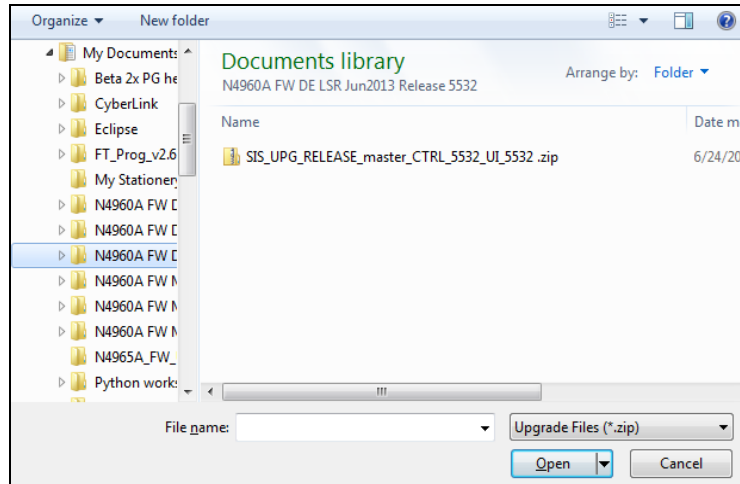

Figure 99. Open upgrade file
- In the instrument upgrade window, click on the **Open...** button to open the Windows browser as shown in Figure 99.